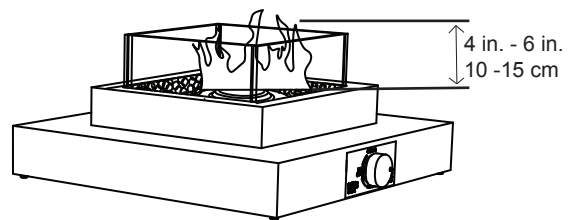

Figure 5
11. After lighting, observe the burner flame. Make sure all burner ports are lit and flame height matches illustration (Figure 5).